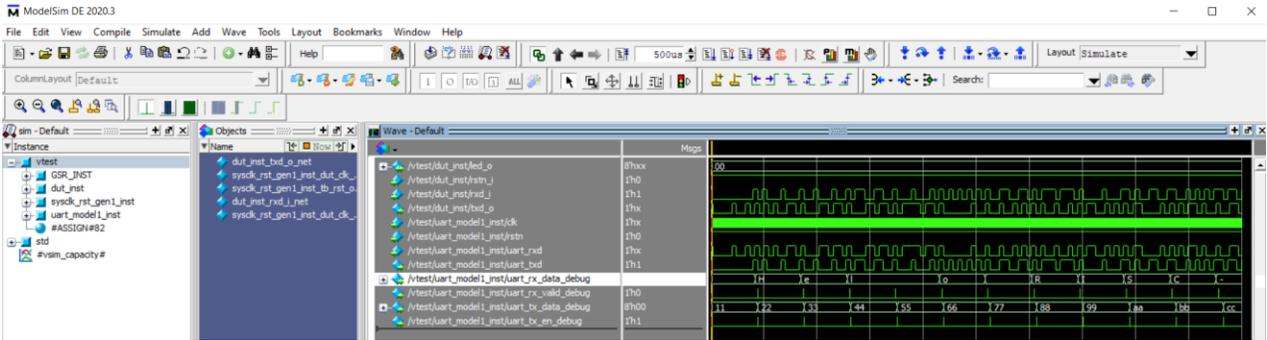

Figure 3.31. Waveform of Hello World Project
4. ModelSim is launched running simulation for the SoC verification project. The corresponding waveform of the SoC verification project for the Hello World project is shown (Figure 3.31). Check the waveform.
The Hello World Project is designed to print some strings using a top-level UART port. The testbench instantiates a UART model to receive these data. Each byte (refer to `uart_rx_data` shown in Figure 3.31) can be checked using ASCII format. Meanwhile, this UART model also supports sending the data to Design Under Test (DUT). The data is stored in a text file and enabled by `STIMULUS_GEN` parameter.